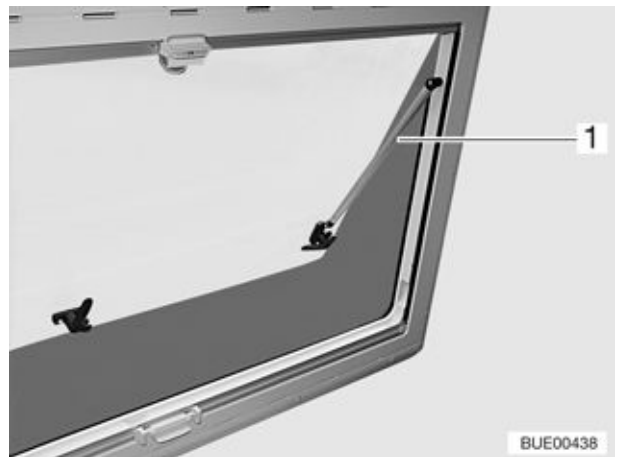

Fig. 37 Hinged window, open (variant 1)
- Open the hinged window to the desired latched position. The telescopic rod (Fig. 37,1) automatically locks in place.